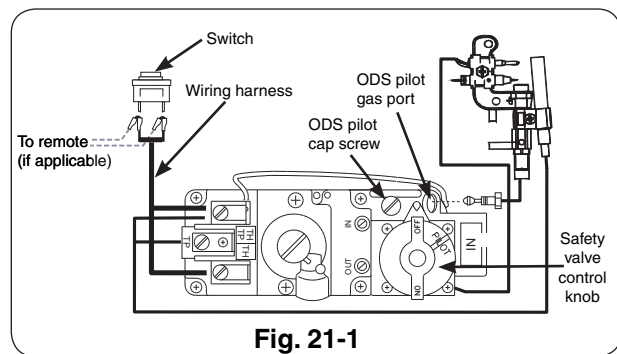

Fig. 21-1
To read the safety valve control knob (Fig. 21-1), read the marking nearest the teardrop-shaped metal pointer.
- b. If adjustment is necessary, remove the cap screw (Fig. 21-1) and turn the smaller gas adjustment screw inside counterclockwise ↺ to increase the ODS pilot flame, and clockwise ↻ to decrease the ODS pilot flame. Replace the cap screw.